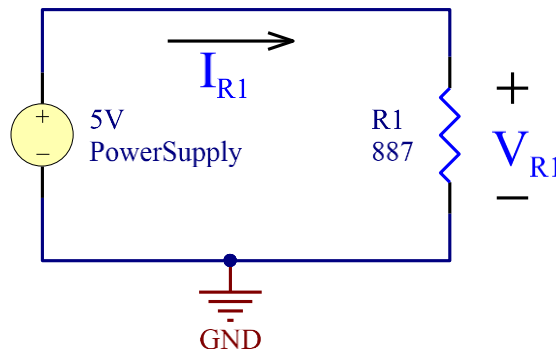
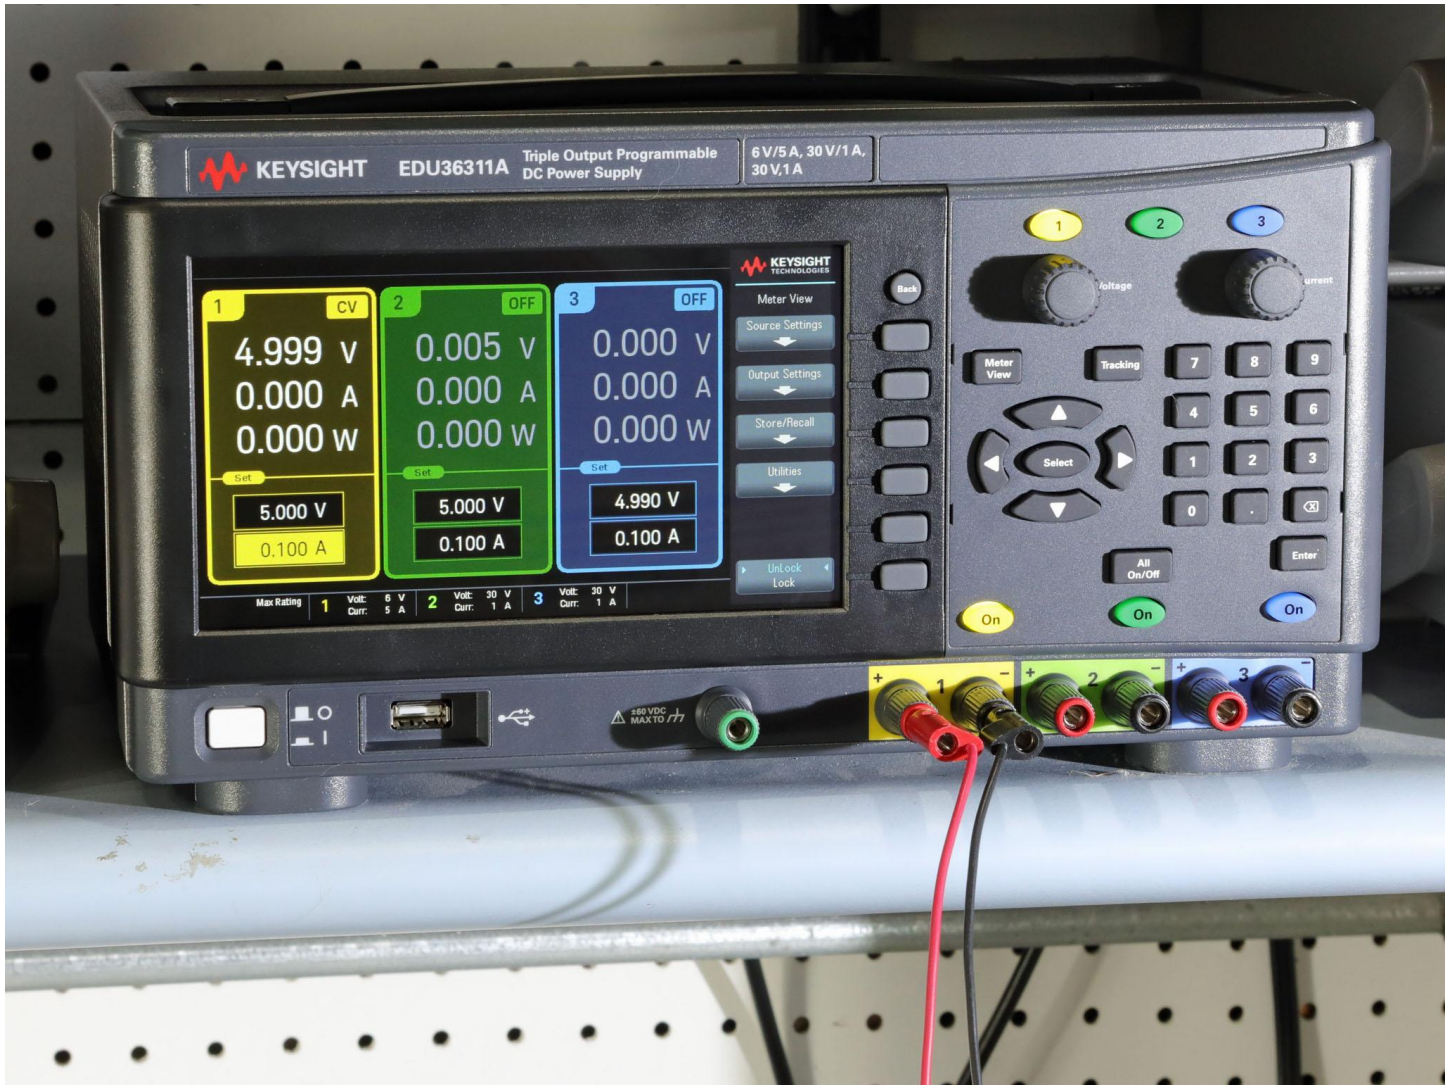

Figure 1: Schematic and Breadboard.
Figure 2: DC Power Supply set up to deliver 5VDC 100mA max.
1. In this part, you are required to measure the voltage across R1 and current flowing through R1 (I_{R1}) in the circuit given in figure 1 which is called a schematic diagram of the actual circuit. R1 is 887Ω .
You will build the circuit as shown in the schematic in figure 1 on the proto board. For this setup, you are required to set up a $5V_{DC}$ source for the Power Supply shown in figure 2. Figure 3 and 4 show examples of how to build the circuit.